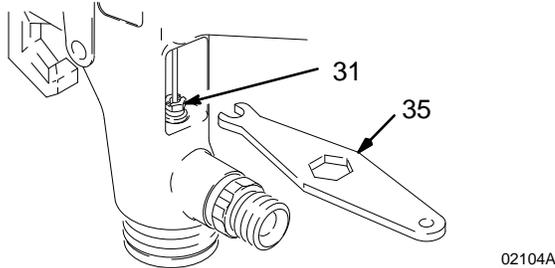

Fig. 10
- Tighten the packing adjustment screw (31) with the gun wrench (35), as shown in Fig. 10, until you can feel a slight drag on the fluid needle. Do not over-tighten the screw as this may bind the needle movement.
- Install the spring (16) and fluid adjustment knob (8).
- Trigger the gun to test the needle movement. If the needle does not return after the trigger is released or is slow in returning, loosen the packing adjustment screw (31) with the gun wrench (35) until the needle returns freely. See Fig. 10.
- Trigger the gun while you install the fluid nozzle (20) with the gun wrench (35).